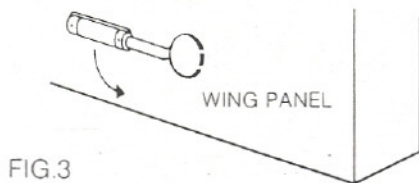
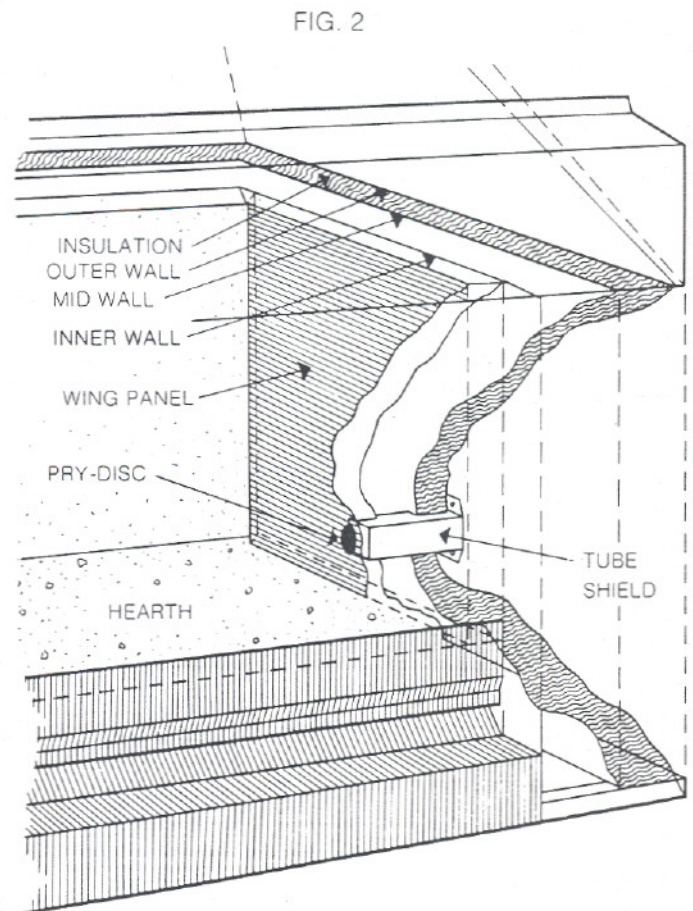

FIG. 3
FIG. 2
**OVAL FIRESTOP SPACERS:** Using straightedge as illustrated (Fig. 2), mark point on ceiling where inclined chimney's "upper surface" will penetrate. Construct "Boxed" opening 18" wide by appropriate length. Opening begins 2" outside ceiling mark, as shown (Figs. 3 and 4).
1. Note the Tube Shield and Pry-disc shown in Fig. 2. Other parts of the fireplace are named for reference.
2. Remove Pry-disc from Wing Panel---with knife blade as shown in Fig. 3. Insert blade at rear, then pry forward.
4. The **CHASE TOP** is constructed as a flat or contoured cover, of metal or other non-combustible material, with width and length to suit the Chase dimensions. Its outer edge must have a down-turned flange of not less than 2" height. Careful attention to collar size in Fig.2 is recommended-note 2" collar height and collar diameter. (Detailed drawings for local fabrication of single or multiple chimney **CHASE TOPS** are available. Write for Vega Drawing Package #5.).